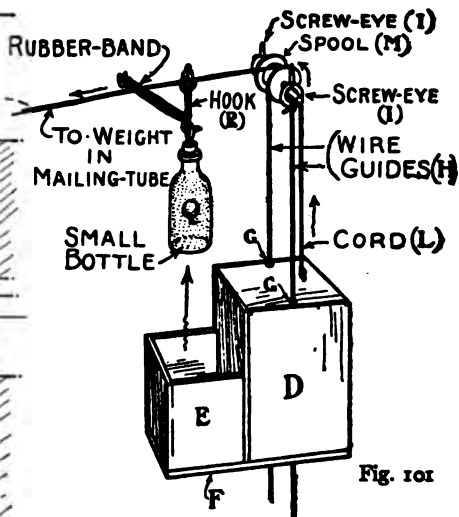

Fig. 101
**The Elevator Car** should be built up of cigar-box wood, as shown in Figs. 101 and 102. The front portion (*D*) should be about 3 inches wide,  $2\frac{1}{2}$  inches deep, and 4 inches high, and the rear portion
**The Elevator Guides.** Bore the holes *G* through the top and bottom of the car, close to the sides, for guide wires *H* to run through (Figs. 101 and 102). These holes may be bored with a screw-eye if you haven't a gimlet or drill. Bell-wire, or almost any wire that you have on hand, will do for the guides. Fasten two screw-eyes into the under side of the top of the shaft, the same distance apart as holes *G*, and in the proper position so they will come exactly over them (*I*, Fig. 100). Use the car for determining these measurements. Then bore two holes through the bottom of the shaft directly below the screw-eyes (*J*, Fig. 100). Attach the wire to one screw-eye, run it down through holes *G* in the car, through one of the holes *J*, then across to and up through the other hole *J*, up through the other set of holes *G* in the car, and attach to the second screw-eye *I*.
the center of box *E* of the elevator (*R*, Figs. 97 and 101), and attach one end of a rubber-band to the hook and tack the other end to the top of the elevator-shaft (Fig. 101).
FIGS. 101 and 102. — Elevator Car Details.